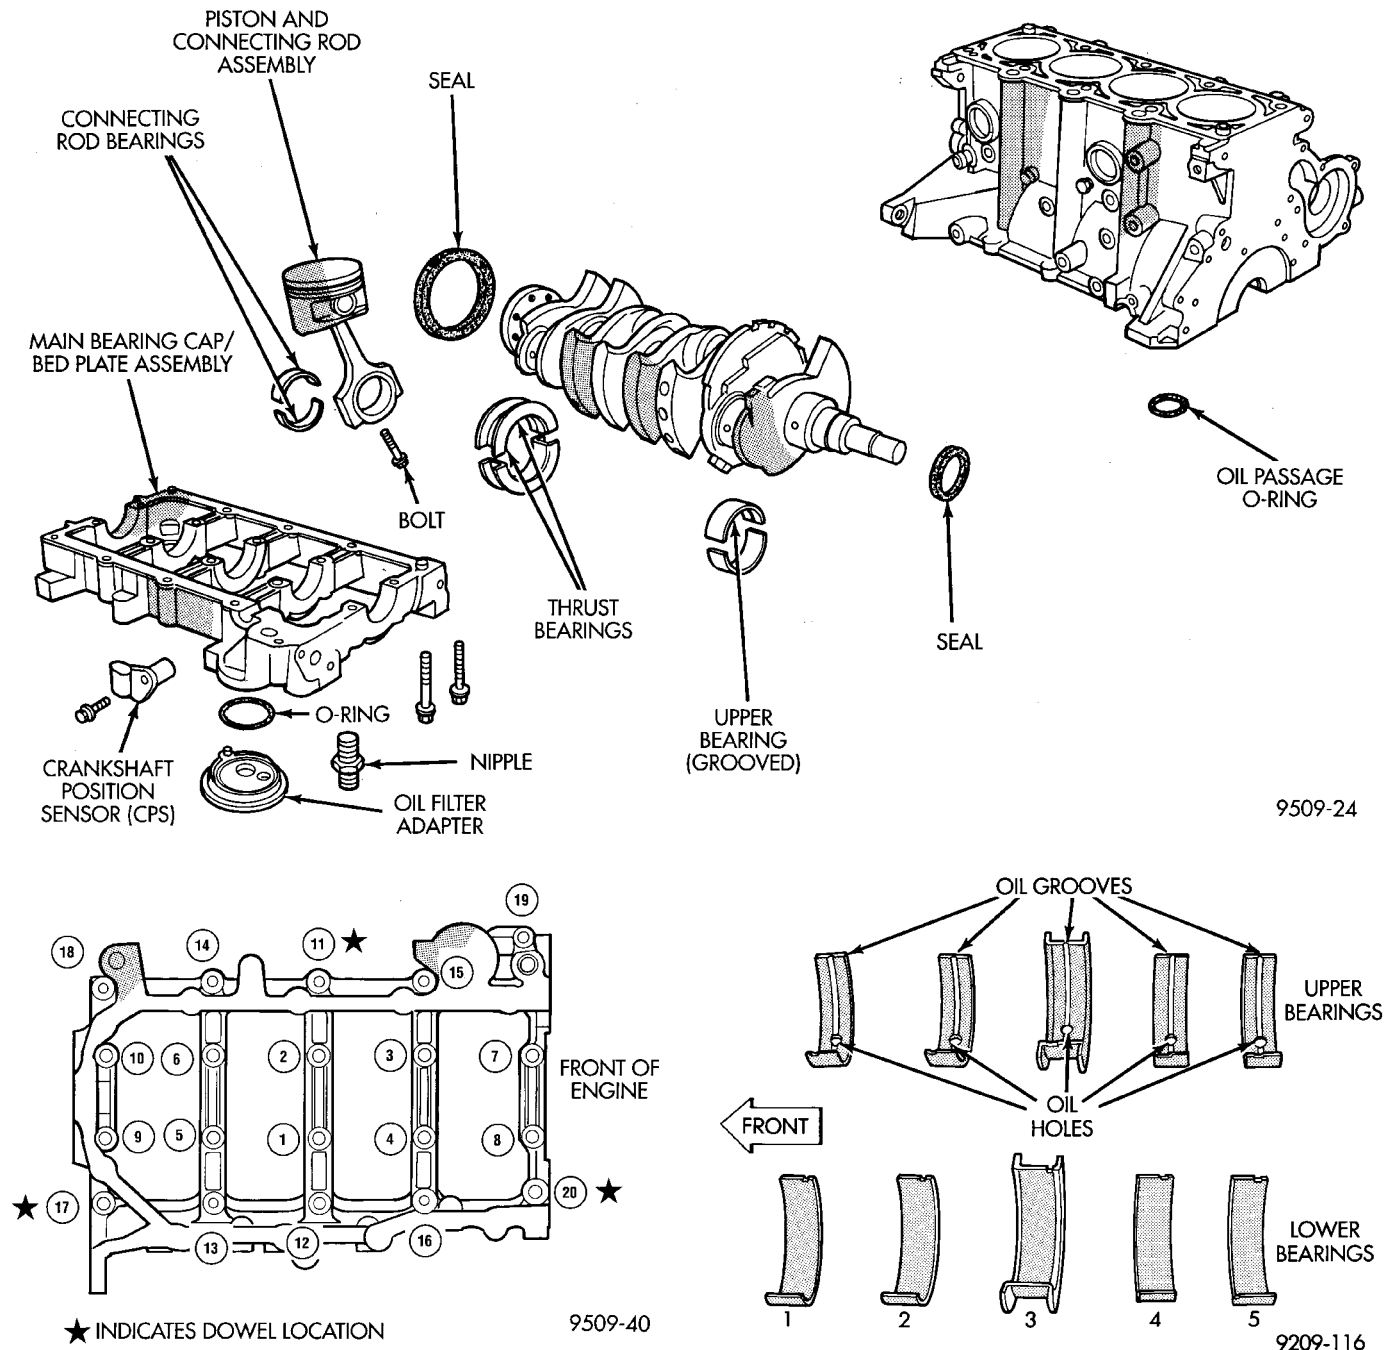

Fig. 66 Bedplate Bolts
- (1) Remove oil filter and adapter from bedplate.
- (2) Remove oil pan.
- (3) Remove crankshaft sprocket and oil pump both procedures outlined in this section.
- (4) Remove all main bearing cap and bedplate bolts from the engine block (Fig. 66).
- (5) Using a mallet tap the bedplate loose from the engine block dowel pins.